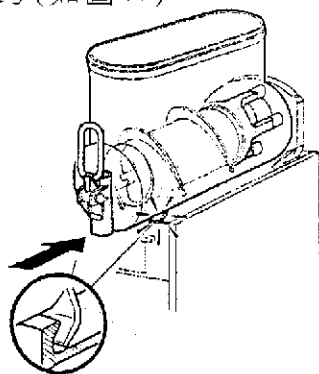

figure 17
7. Push the bowl towards the rear wall of the unit until it fits snugly around the gasket and its front fastening hooks are properly engaged (see figure 17)